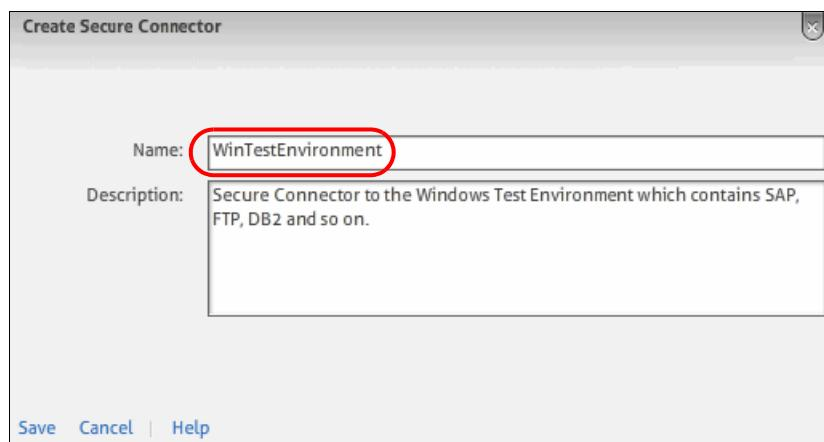

Figure 2-33 Cast Iron Live Create Secure Connector
- The Create Secure Connector dialog box displays. Specify a Secure Connector name (WinTestEnvironment), as shown in Figure 2-33, and optionally provide a brief description of the Secure Connector. Click **Save**.